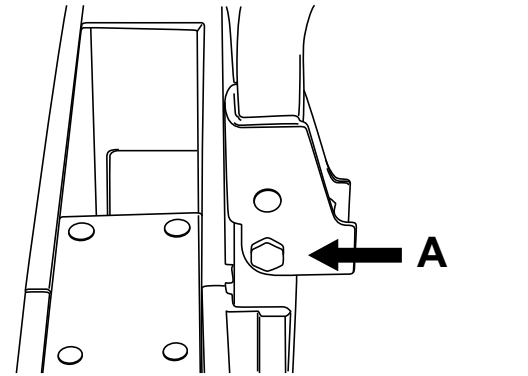

Fig. 4
- Connect the Hitch Insert assembly to the square Central Support Tube on the basket by inserting the large bolt through hole A (**Fig. 4**) and secure with the corresponding nut. Tighten the bolt and nut so that it is very snug but allows the Hitch Insert to rotate up and down on the Central Support Tube.